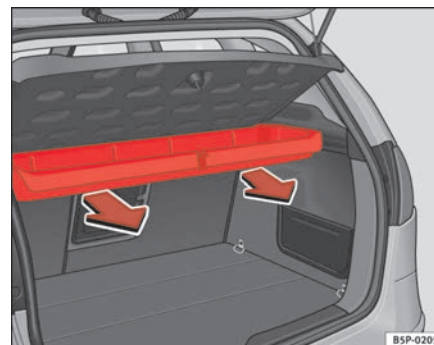

Fig. 125 Removing storage shelf
- Pull outwards until the compartment is freed from the pivot point ⇒ fig. 125.